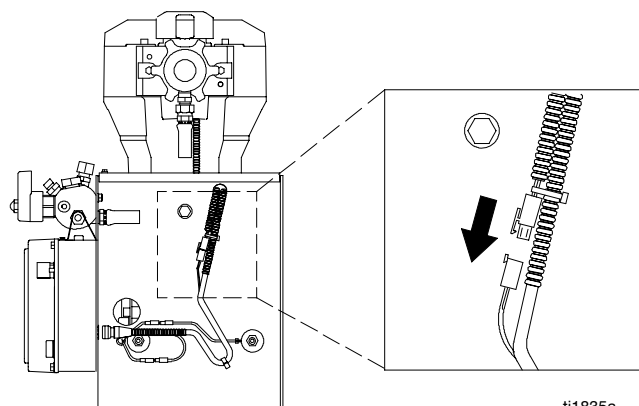

Fig. 4
1. Liberally apply bearing grease (supplied with replacement gear cluster) to gear cluster (102), washers (104) and (105) and to areas called out by note 1. Use full 0.68 pint (0.32 liter) of grease for GMax 7900.
2. Place bronze colored washer (105) and silver colored washer (104) onto drive housing (71). Install gear cluster (102) through washers (105) and (104).
3. Place bronze colored washer (71g) and silver colored washer (71h) on shaft protruding from large shaft of drive housing (71). Align gears and push new drive housing straight onto pinion housing and locating pins (B).
4. Install two washers (87) and screws (59).
5. Install four lock washers (87) and cap screws (56) into drive housing (71).
6. Install cover assembly (13) with six lock washers (87) and cap screws (56).
7. Fig. 4. Reconnect gallon counting sensor.